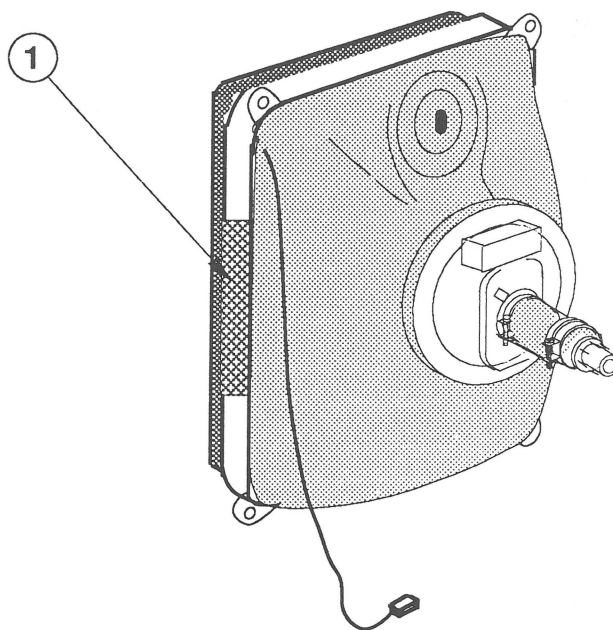

FIGURE 52
9. Set the monitor upright. Remove and discard the copper tape (Figure 52, #1) from both sides of the CRT and chassis. (Two new strips of copper tape are provided with the replacement CRT).
3. Install new copper tape (Figure 52, #1) on both sides of the CRT. Make sure the copper tape covers the metal tab protruding from one side of the chassis.